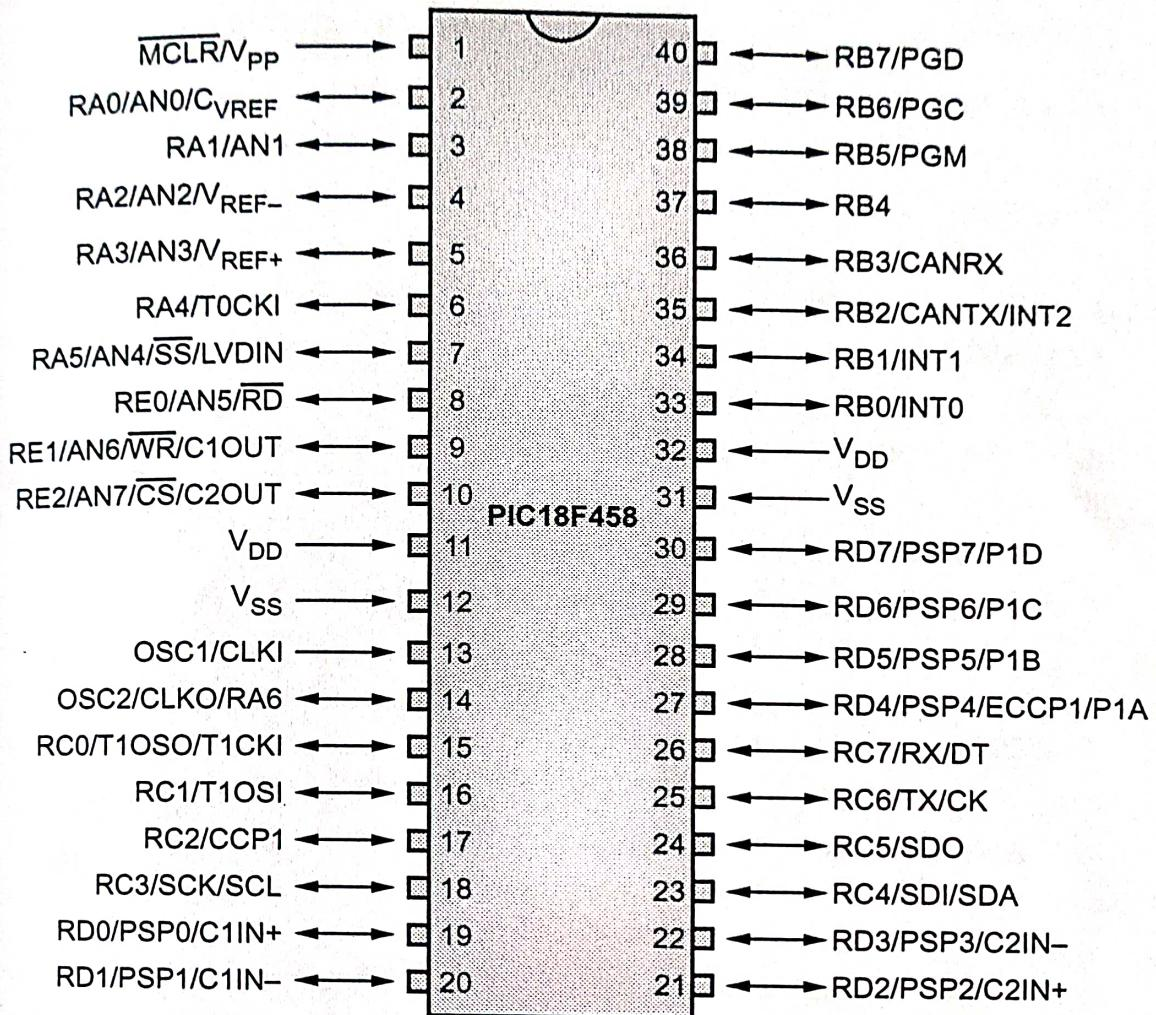

Fig. 2.4.1 PIC18F458 pin diagram
- Fig. 2.4.1 shows the pin diagram of PIC18F458
- As shown in the Fig. 2.4.1, PIC18F458 has total 40 pins. These pins can be classified as :